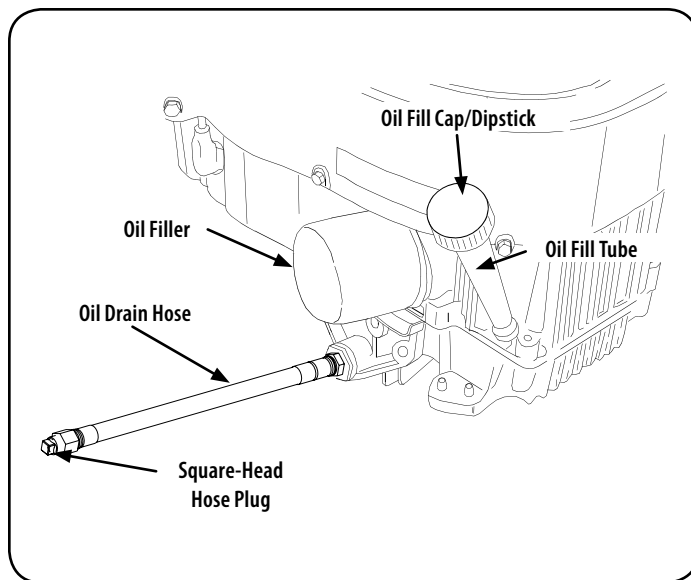

Figure 16
2. Locate the oil drain hose on the right side of the engine. See Figure 16.
4. While holding the free end of the oil drain hose over the oil collection container, unscrew the square head hose plug from the end of the hose. See Figure 16. Drain the engine oil into the collection container.